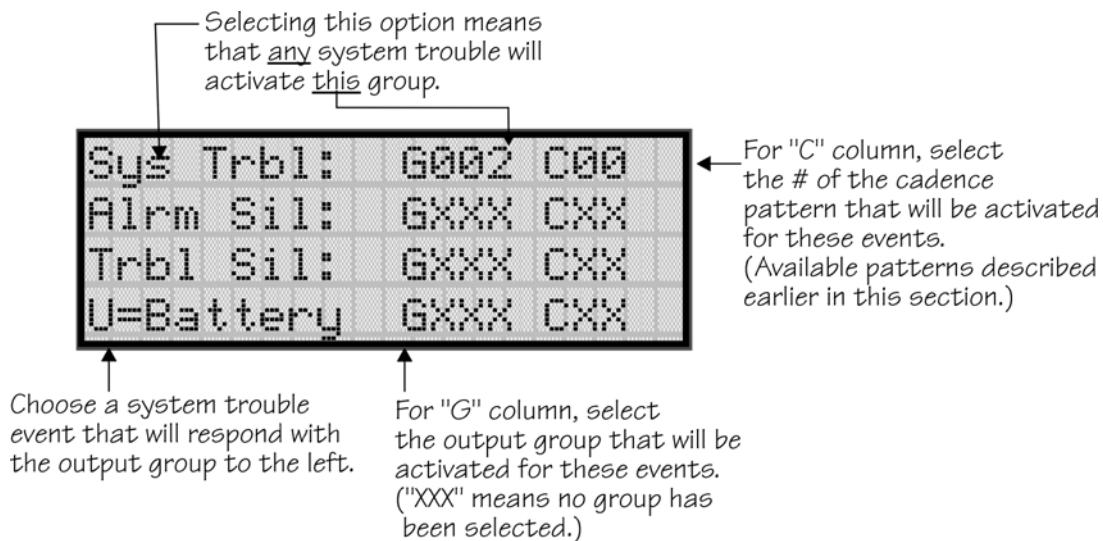

Figure 7-14 System Trouble Event Mapping Example
6. Press **1** for Trouble Events. A screen similar to the one in Figure 7-14 will display. Select a group and a cadence pattern for each event as needed for your application. The U: field is for a user-specified trouble condition. You can program an output group and cadence pattern for any of the following events: